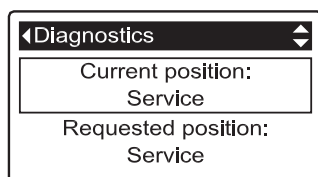

FIG. 136
4. Press the UP (▲) button to scroll through the list until **Current position** is displayed (See Figure 136).